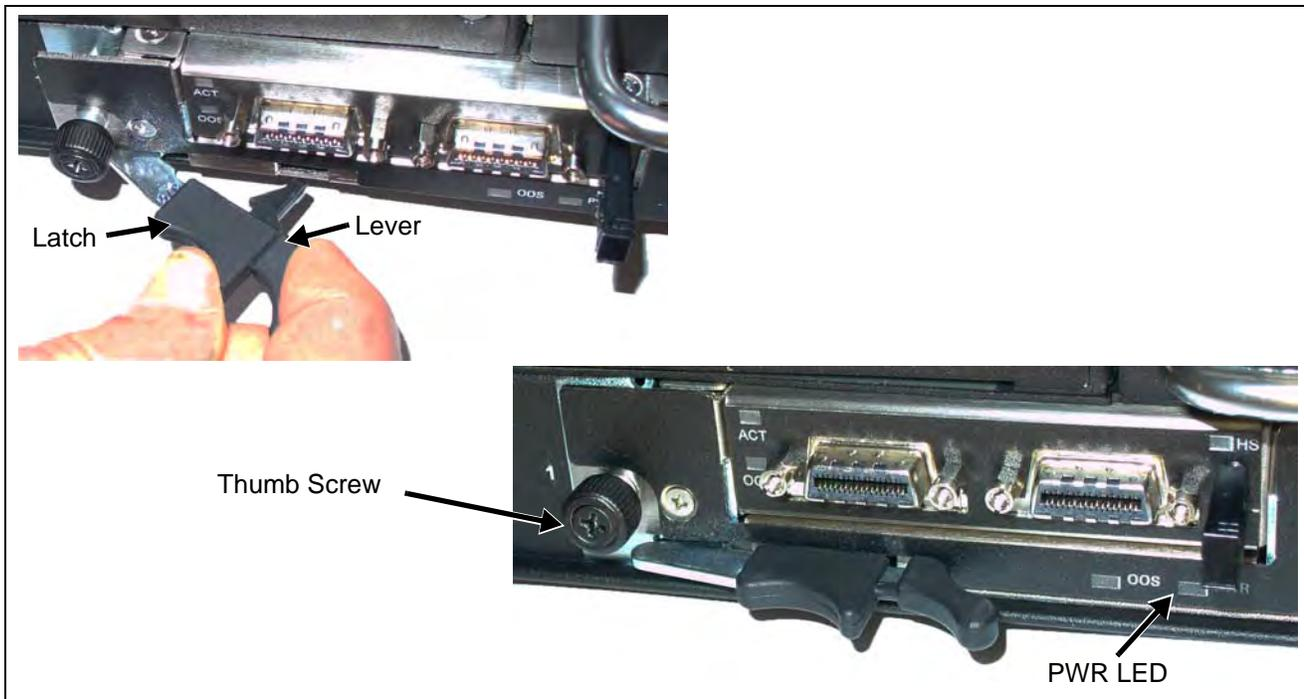

Figure 5.17 - IAP100 Insertion
| 2. | While squeezing the handle's lever and latch together, close the left and right ejector handles until the inner sides of the ejector handles are attached to the faceplate (Figure 5.17). |
3. Verify that the PWR LED is GREEN, indicating that the IAP100 is receiving power (Figure 5.17).